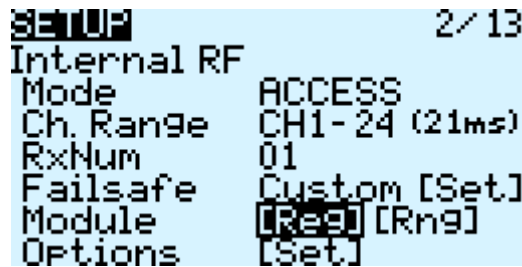

Figure 61: Internal RF
5. Using the ENT knob, scroll down to INTERNAL RF. (Figure 61)